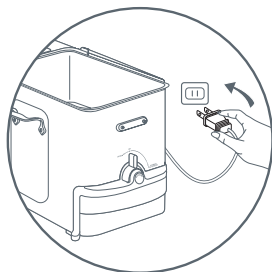

Fig. 10
- After the bowl has been filled with oil, plug in the fryer without the frying basket – fig. 10. Turn on the fryer. The power indicator light will switch on. Turn the adjustable thermostat to the desired temperature (see cooking table: page 16).